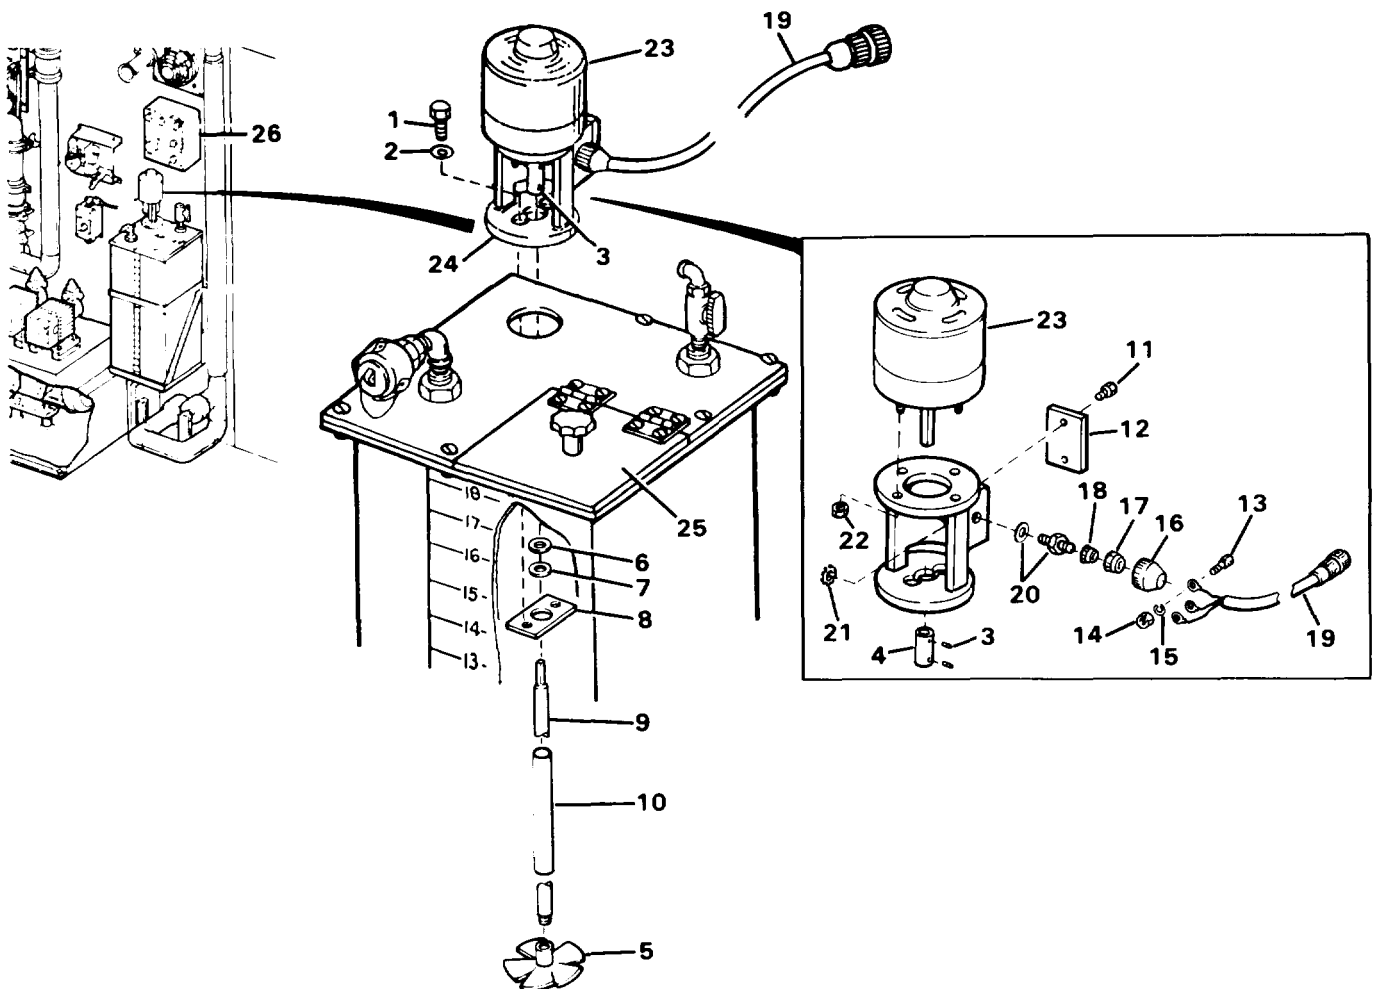

Figure 4-43. Mixer Assembly
- a. Disconnect mixer cable (19, Figure 4-43) by unscrewing it from switch panel No. 2 (26) (para. 4-31).
- b. Remove two capscrews (1) and washers (2).
- c. Loosen bottom two setscrews (3).
- d. Open the tank access door (25).
- e. Remove the shaft assembly (5, 6, 7, 8, 9 and 10) through the tank access door. Remove washer (6), seal (7) and plate (8). Unscrew propeller (5) and slide plastic tubing (10) off shaft (9).
- f. Motor assembly (23) with attaching hardware can now be removed from the tank.
- g. Remove top two setscrews (3) and sleeve (4) from motor (23) shaft.
- h. Remove two screws (11) and plate (12).
- i. Remove twine, tape and tag and disconnect two wires of cable (19) by removing screws (13), nuts (14) and lockwashers (15).
- k. Unscrew nut (16). Retainer (17) and bushing (18) are now free on cable (19). Remove cable (19).